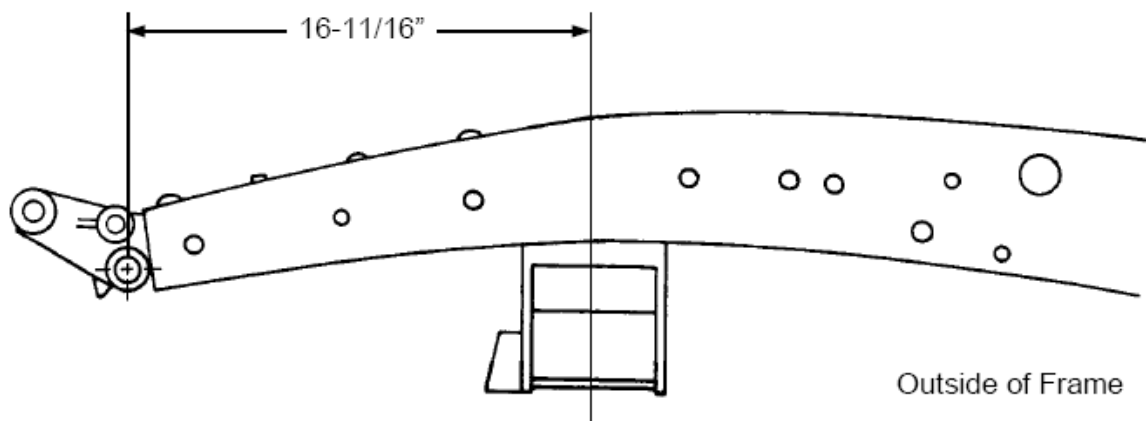

Figure 3- Center of Crossmember & Spindle Centerline
6. Measure straight back 16-11/16" from the center of the front spring shackle hole in the frame and make a vertical line. See **Figure 3**. This will be the center of the crossmember and the spindle centerline. Slip the crossmember up into the frame and center it on the centerline mark. If it does not fit up into the frame, grind the sides of the crossmember uprights so you can get it into this position. Make sure that the crossmember is seated fully on the underside of the frame. Tack weld in place.